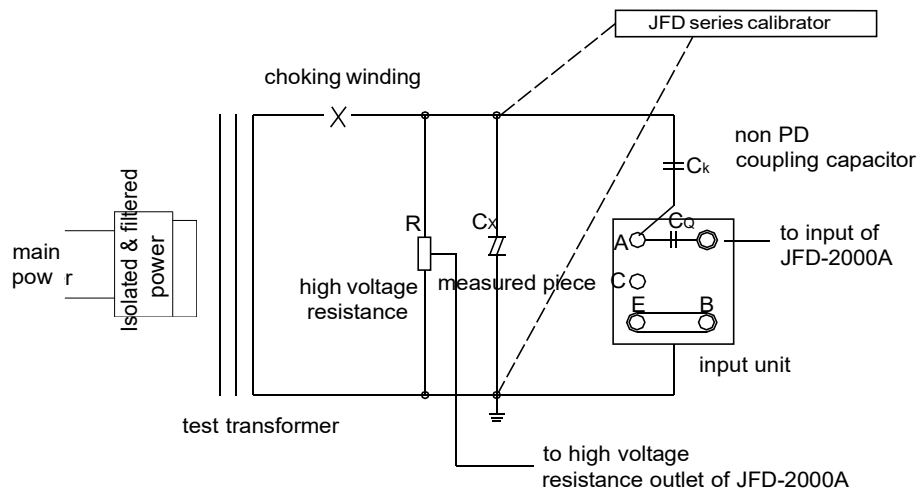

Fig.4, Standard connecting circuit of partial discharge measuring (parallel connection).
6.1.5 The partial discharge measuring circuit. (Fig.4)